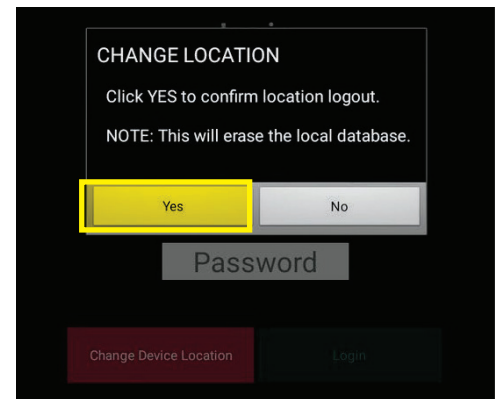

Figure 24
8. Confirm Yes on popup (Figure 24).